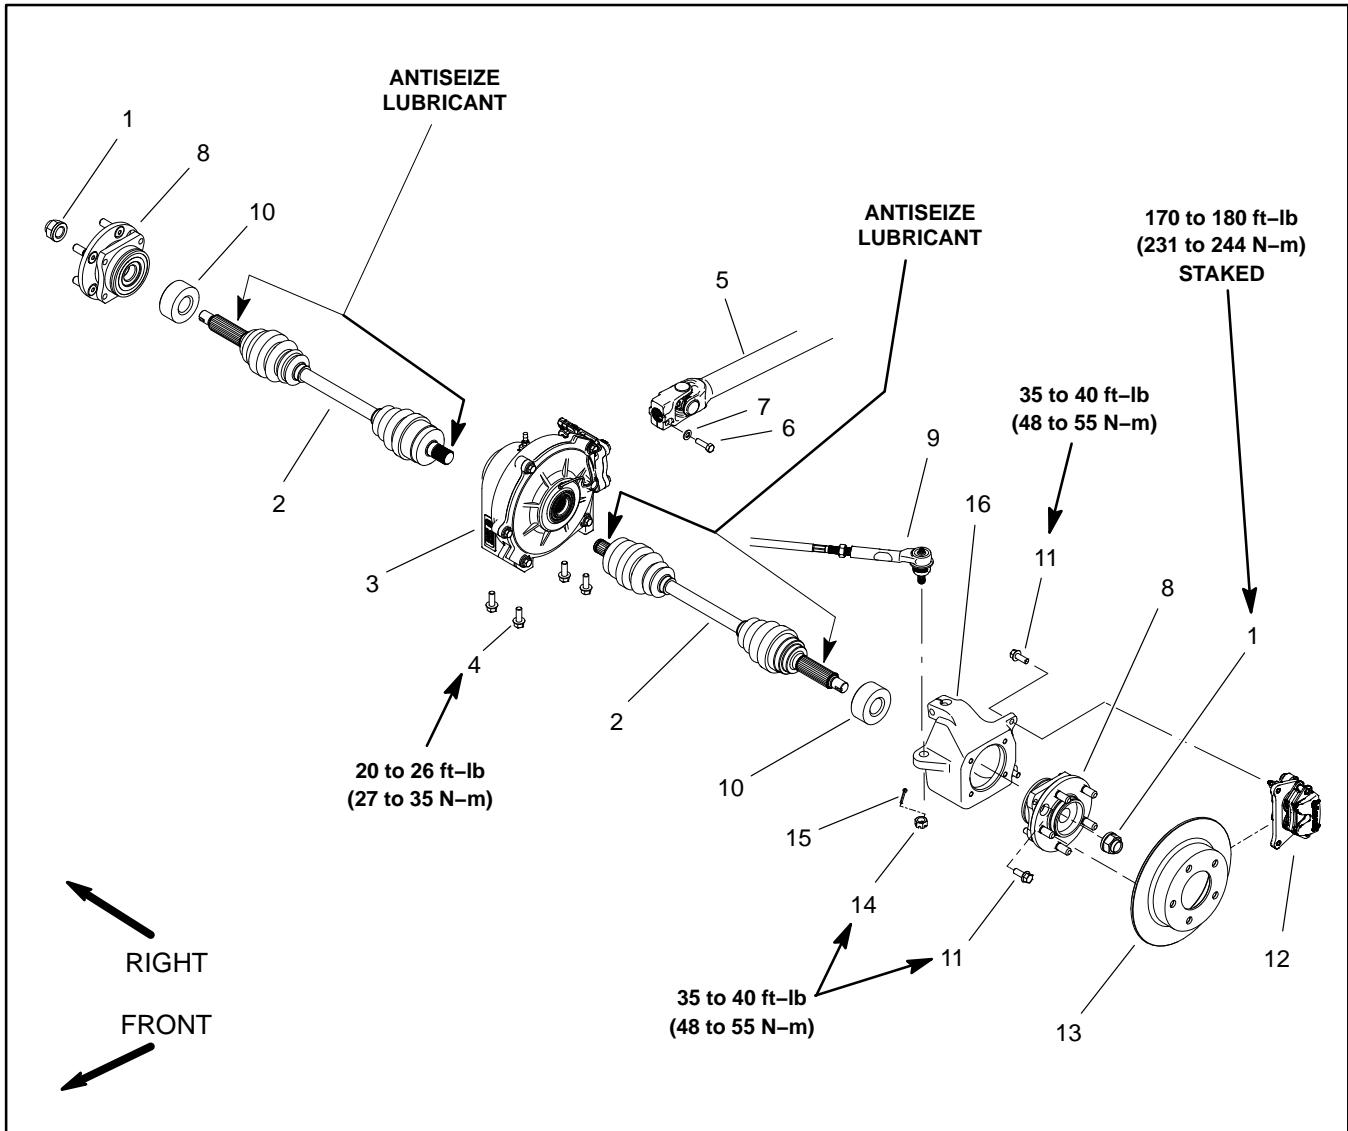

Figure 1
### Disassembly (Fig. 1)
**Assembly (Fig. 1)**
5. Slide wheel hub onto CV axle. Loosely install four (4) flange head screws to locate wheel hub to knuckle. Do not fully tighten screws.